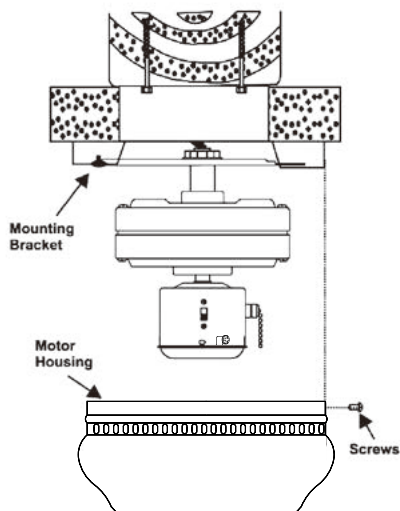

Figure 10
2. Carefully lift the motor housing onto the mounting bracket, properly align the holes and tighten the motor housing with the 4 screws supplied.(Fig. 10)